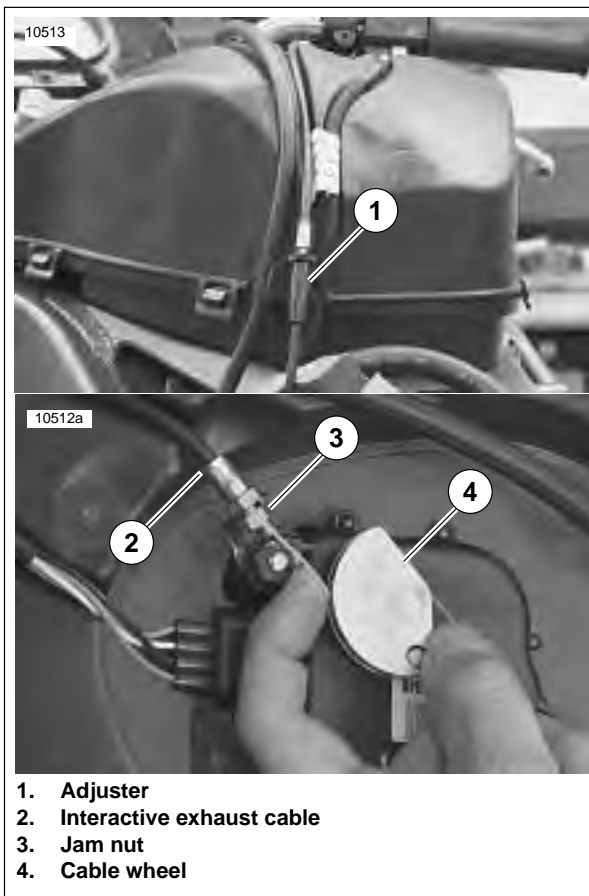

Figure 1-48. Interactive Exhaust Cable
3. See Figure 1-48. Loosen jam nut (3).
4. Remove cable (2) from bracket and cable wheel (4).
- a. See Figure 1-48. Move cable with your fingers from side to side. There should be no more than 1/8 in. (3.2 mm) side play in cable in either direction with 1/4 in. (6.4 mm) maximum overall side play.
- b. Adjust cable as needed using cable adjuster (1).